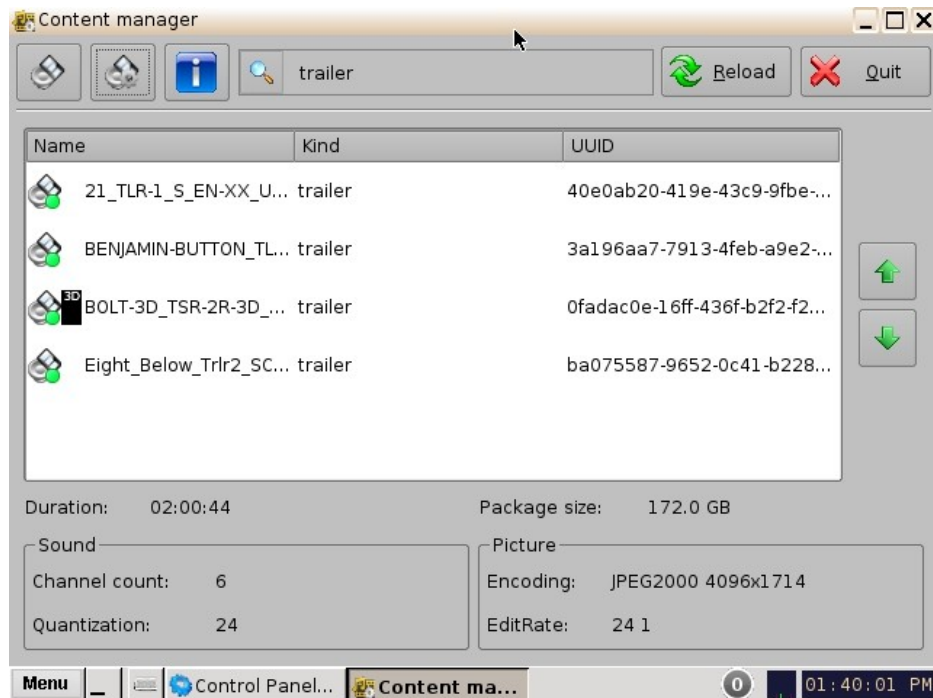

Figure 77: Search Field
- For example, select Trailer to sort the CPLs. The CPLs will be alphabetically ordered within the Trailer category (Figure 77).